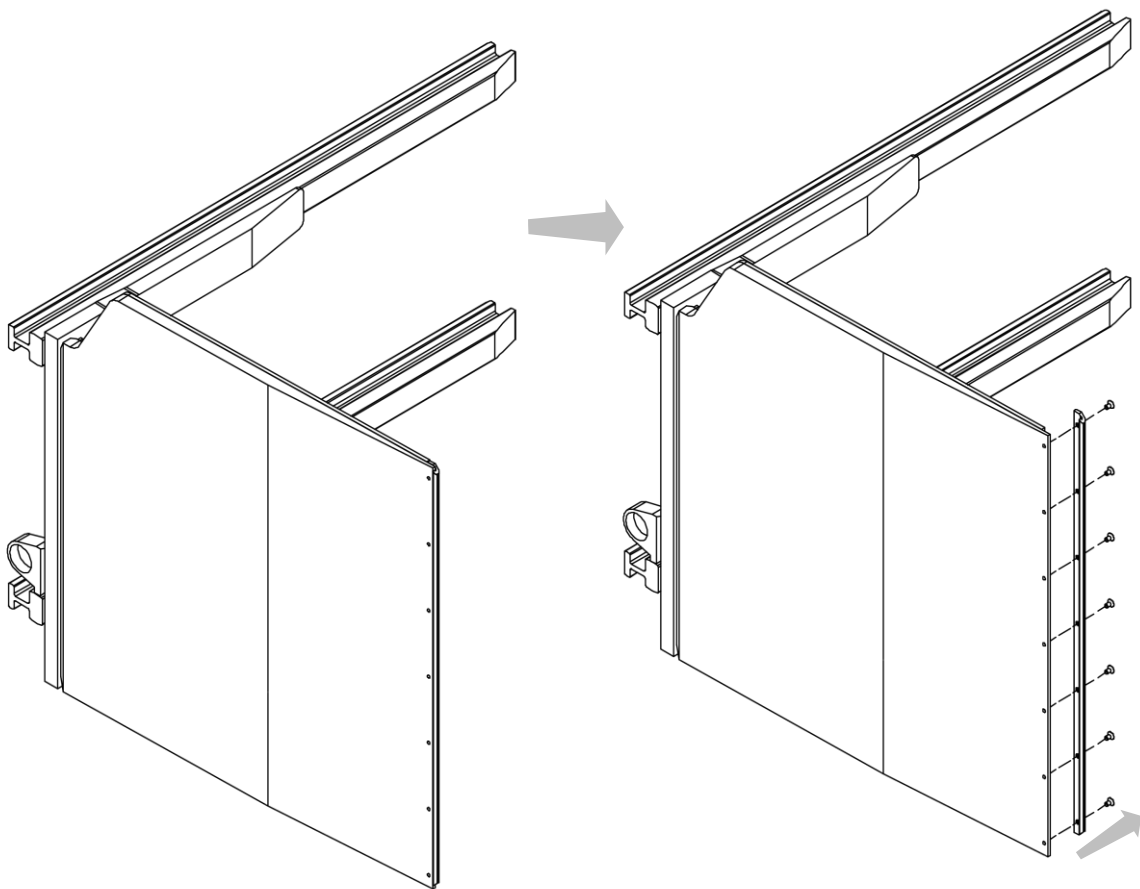

Figure 90
2. Remove the protective caps by unscrewing the screws that fasten them to the jaws (see *Figure 90*).